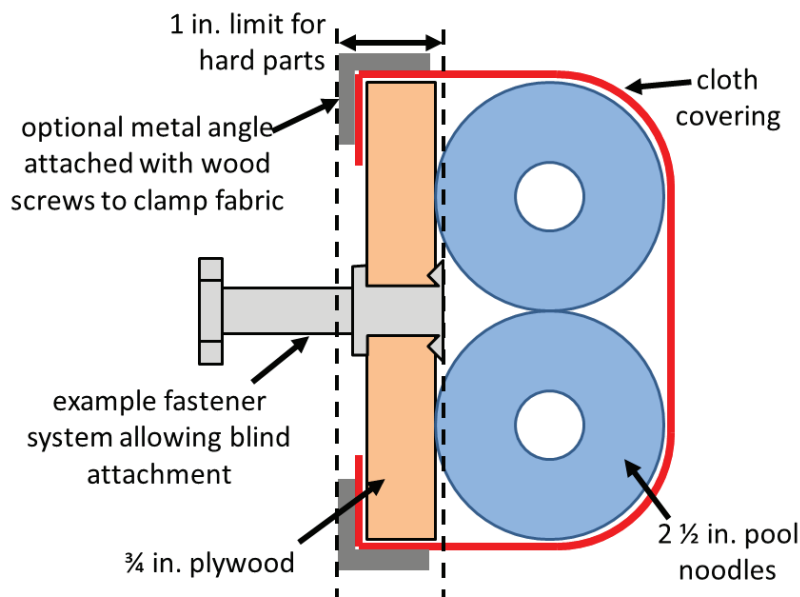
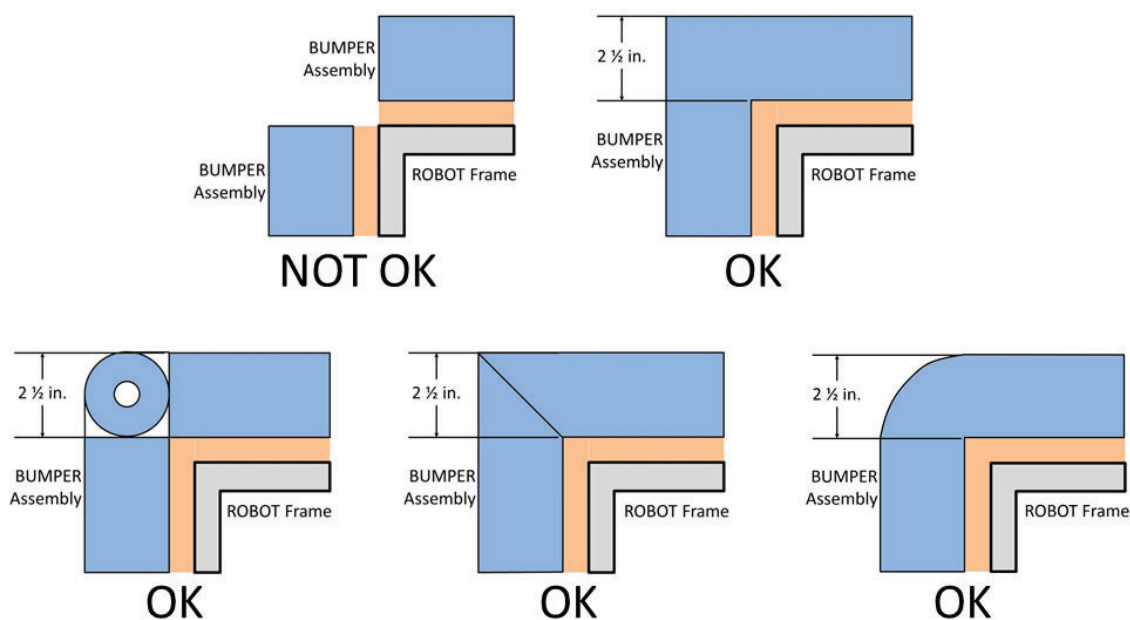

Figure 10-6 BUMPER Vertical Cross Section
Figure 10-7 Soft Parts of BUMPER Corners
- R31.** BUMPERS must be constructed as follows (see Figure 10-6):
- C.** use a stacked pair of approximately 2½ in. (nominal) round, petal, or hex “pool noodles” (solid or hollow) as the BUMPER cushion material (see Figure 10-6). All pool noodles used in a BUMPER set (e.g. Red set of BUMPERS) may not be modified (with the exception of cutting to length or beveling ends) or deformed and must be the same diameter, cross-section, and density (e.g. all round hollow or all hex solid). Cushion material may extend up to 2½ in. (~63 mm) beyond the end of the plywood (see Figure 10-7). To assist in applying the fabric covering, soft fasteners may be used to attach the pool noodles to the wood backing, so long as the cross section in Figure 10-6 is not significantly altered (e.g. tape compressing the pool noodles).
- D.** be covered with a rugged, smooth cloth. (multiple layers of cloth and seams are permitted if needed to accommodate R28, provided the cross section in Figure 10-6 is not significantly altered).
- E. optionally use metal angle, as shown in Figure 10-6 or other fasteners (e.g. staples, screws, etc.) to clamp cloth.
**R32.** Corner joints between BUMPERS must be filled with pool noodle material. Examples of implementation are shown in Figure 10-7.